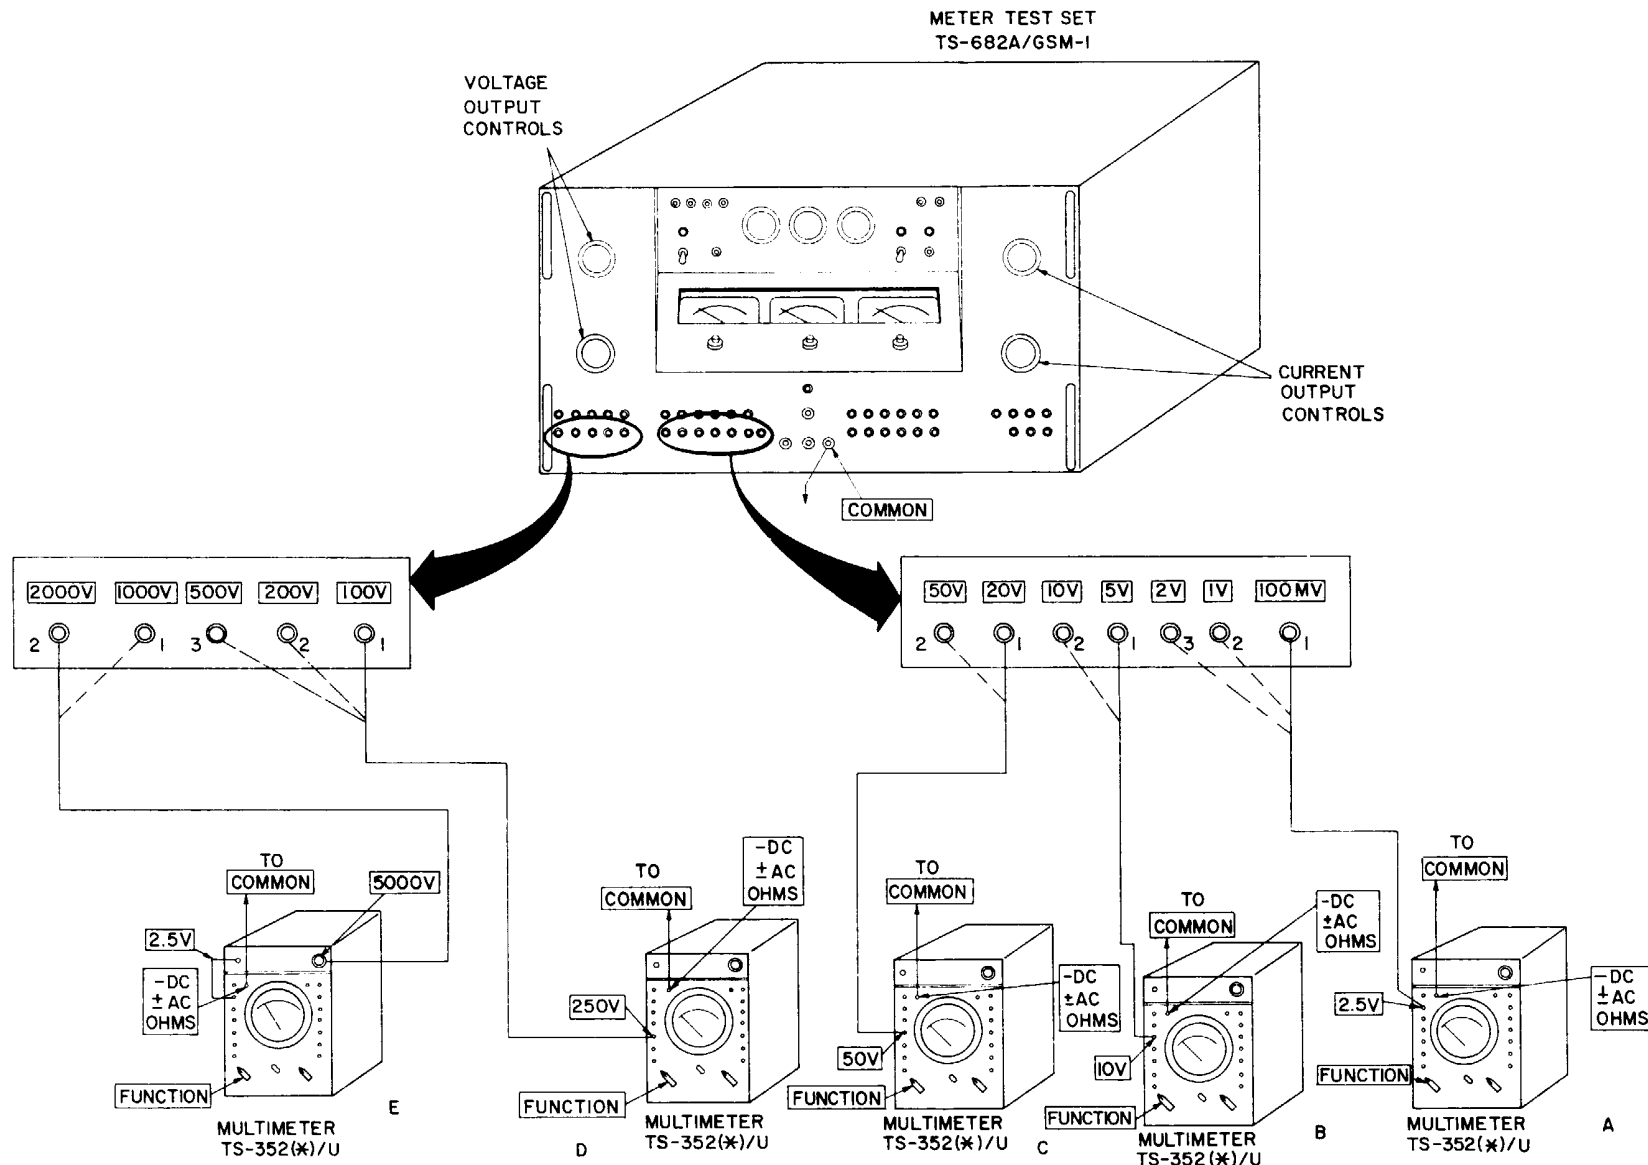

Figure 6-25. Dc voltage accuracy test setup.
- b. *Test Connections and Conditions.* Connect a test lead between the common terminal post on the meter test set (fig. 6-25) and the -DC + AC jack on the multimeter. Do not make any other connection until instructed to do so in the test procedure.